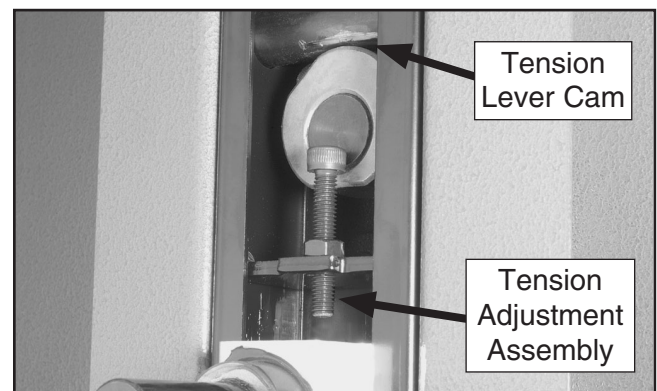

Figure 14. Tension adjustment assembly locations (top wheel removed for clarity).
4. Apply a thin coat of grease to the tension adjustment assembly and tension lever cam (see **Figure 14**).